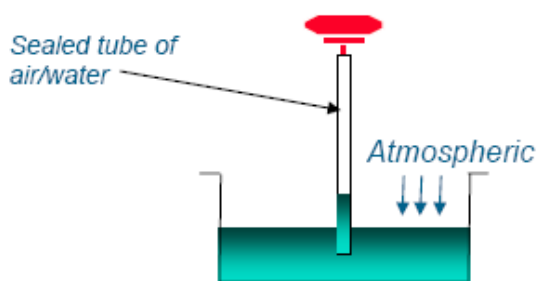

Figure 8. Waterlevel Connection to Pressure Sensor
- The sensor must be implemented with an air column buffer between the liquid and the sensor. This is done with a section of tubing as in Figure 8.